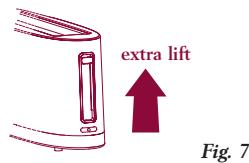

Fig. 7
- 5 Remove the toast. For easier removal, raise the lever a little more and keep it raised until the toast has been removed (EXTRA LIFT function) (fig. 7).